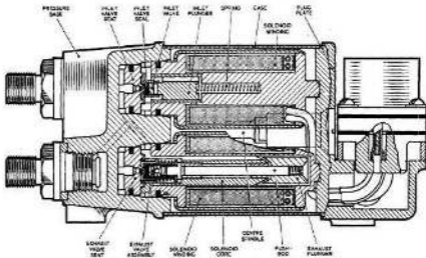

Fig. 5. Sectional view of electromatic valve (AC1119)
9. The assembly incorporates four solenoid valves (fig. 5), two inlet valves and two exhaust valves, one of each being shown in the illustration. Each inlet valve assembly comprises a spring-loaded plunger, to the head of which is fitted an inlet valve. This normally engages with the valve seat, but energization of the winding attracts the plunger to the solenoid core, thus opening the valve. When the winding is de-energized, the plunger returns to the closed position by spring pressure.